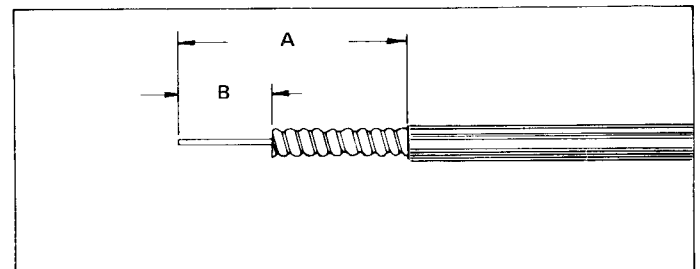

FIGURE 1
STEP 1. Cut cable as shown in Figure 1. Cable end must be square. New cut can be made with sharp knife in sawing motion. Use straight-edged piece of paper around cable to guide jacketing cut. Clean outer conductor with solvent. Cut off outer conductor and foam with knife. Use knife to remove burrs. Use wire brush to remove copper particles from foam. Continue with Steps 2 and 3 for Type 41SP connector. For Types 41SW, 40622, and 41SWT connectors, read soldering techniques in Step 2 and proceed with Steps 4 and 5.